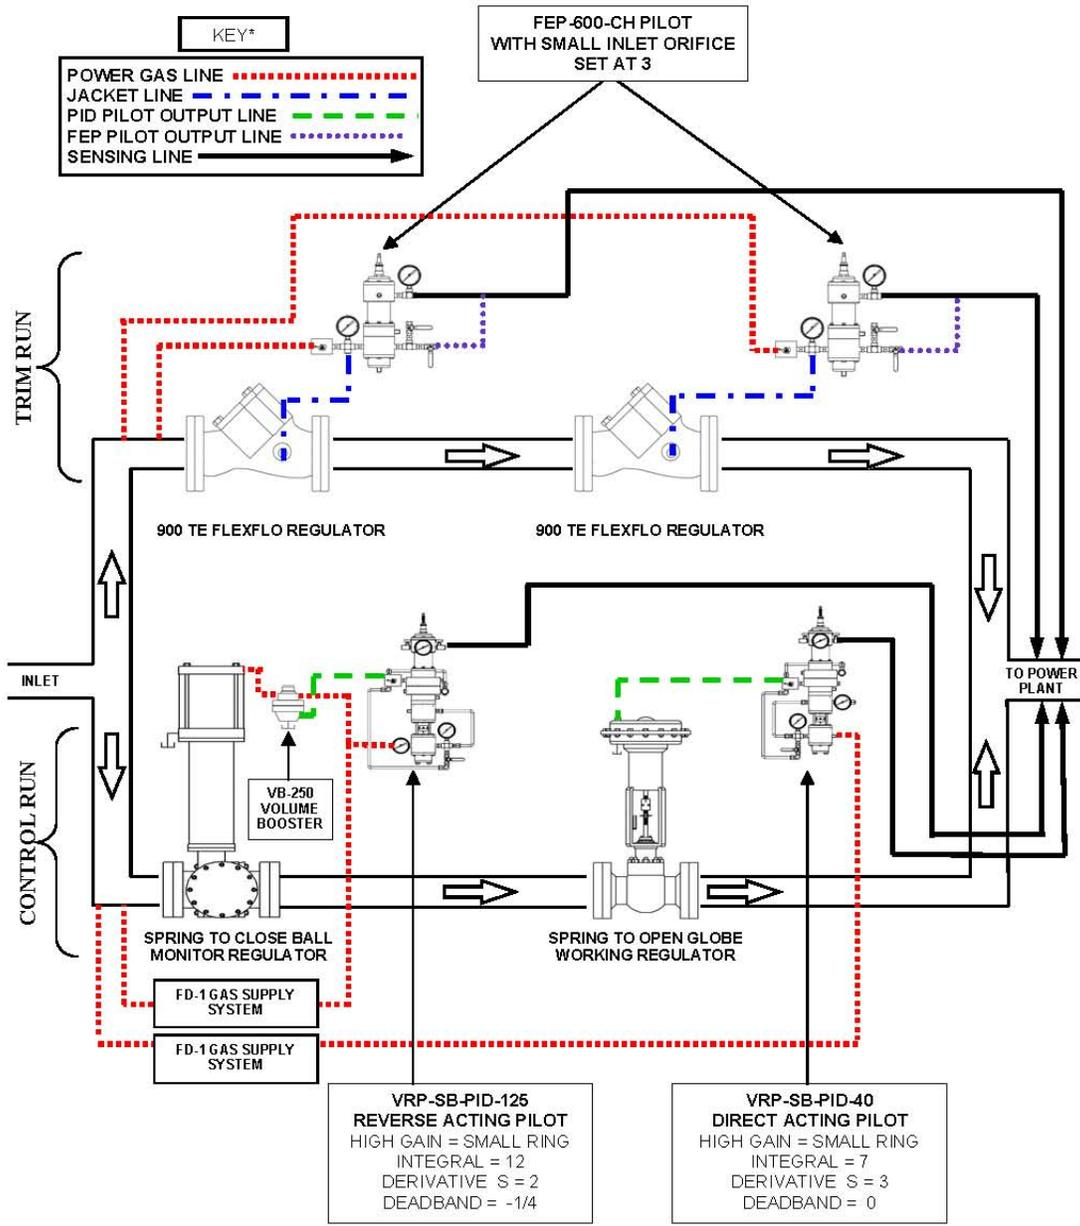

Fig. 1
- **Globe Valve / Flexible Element** – As the picture shows below, this design has a Main Run Globe Valve worker and Ball Valve Monitor. The Trim Run has a Flexible Element worker/monitor set. (See the P&ID on the following pages for detail - Fig 1).